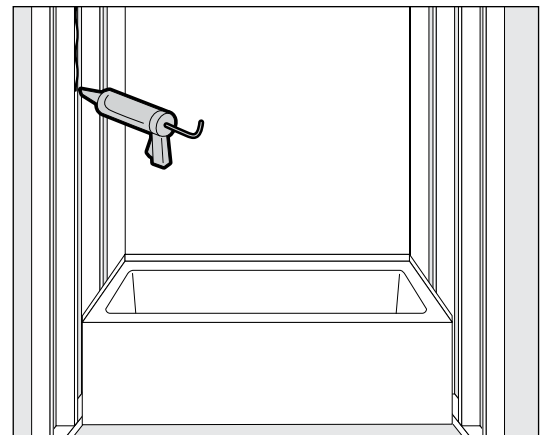

FIGURE 8. Apply adhesive.
- Apply adhesive to studs for faucet side panel and install side panel. (Fig. 8)